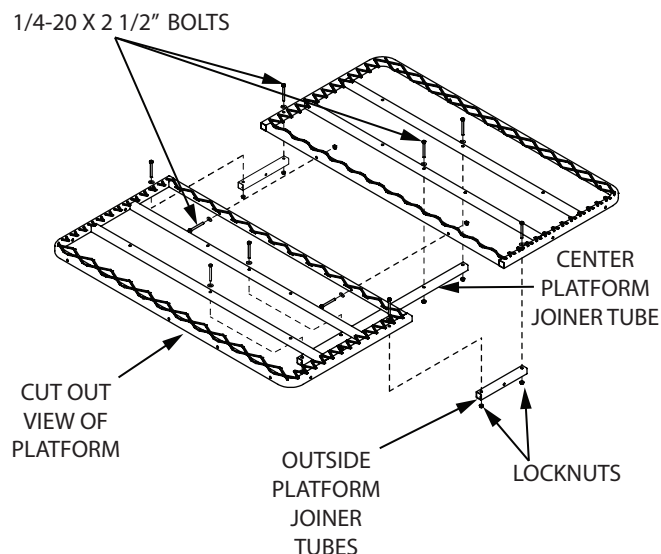

FIGURE 1
1. Attach the (2) platforms (TWR15) together using (2) provided 1/4-20 x 2-1/2" bolts, locknuts and washers. **SEE FIGURE 1. DO NOT tighten all nut & bolt assemblies completely!**
2. Attach the center platform joiner tube (TWR32) to the bottom of assembled platforms using (4) provided 1/4-20 x 2-1/2" bolts, locknuts and washers. **SEE FIGURE 1.**
3. Attach (2) outside platform joiner tubes (TWR31) to the bottom of assembled platforms using (4) provided 1/4-20 x 2-1/2" bolts, locknuts and washers. **SEE FIGURE 1.**